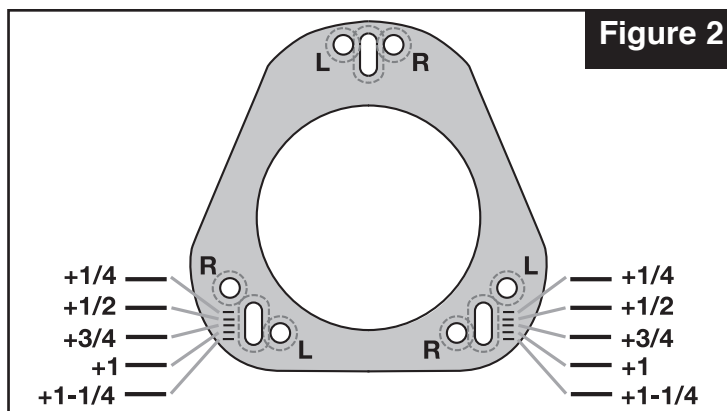

Figure 2
- c. Align all three heads of flat head socket screws into detent in camber plate slots corresponding to camber change needed in step 1, according to **Figure 2**. Torque to 30 lb-ft (40 Nm).